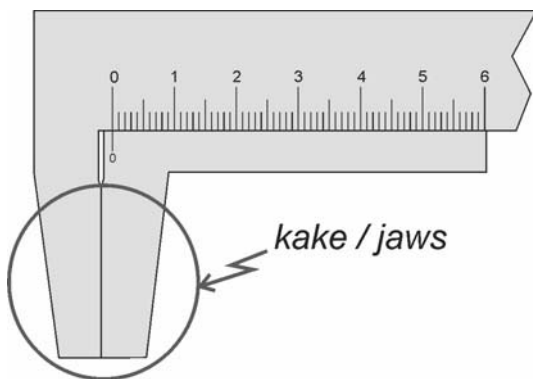
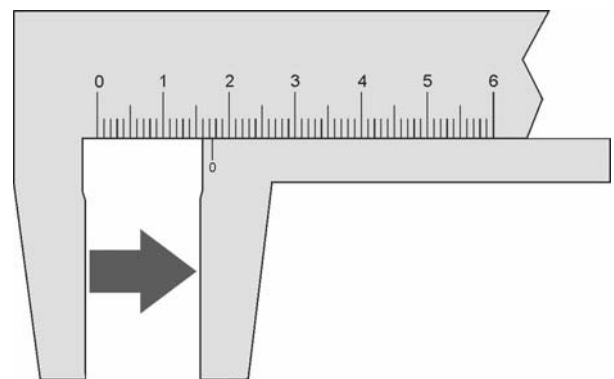

Fig. 2 A vernier caliper with its jaws closed.
Fig. 3 A vernier caliper with its jaws open.
2. The jaws of the caliper are closed in **figure 2** and open in **figure 3**. How many millimeters are they open in **figure 3**? Estimate the fraction of the millimeter - Δ - again.